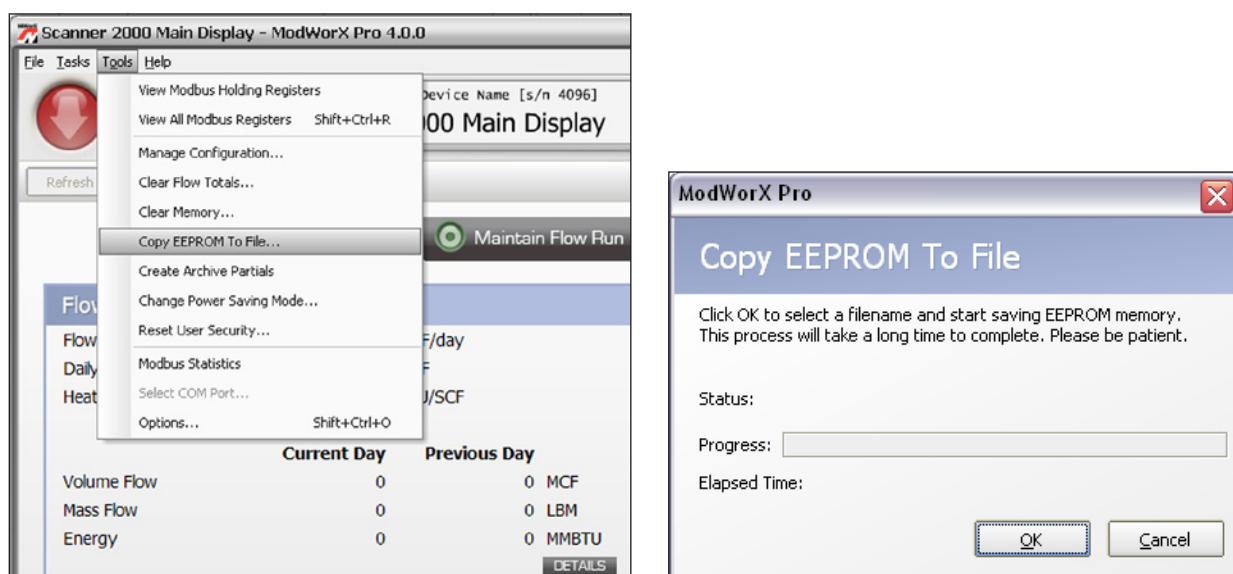

Figure A.9
1. Click on **Tools>Copy EEPROM to File** (Figure A.9).
2. Click **OK** on the Copy EEPROM to File screen (Figure A.9). A Write EEPROM to File dialog will appear, prompting the user to verify or change the location where the file will be stored, and the name of the binary file. Unless changed on the Options>Directories screen, the file location is C: NuFlo Log Data\ModWorX Pro, and the filename is EEPROM\_YYYYMMDD\_HHMMSS.bin where YYYYMMDD is the year, month and day that the memory is saved, and HHMMSS is the hour, minute and second that the memory is saved. For example, EEPROM\_20090118\_230443.bin is the name of a file copied at 11:04:43 p.m. on January 18, 2009.